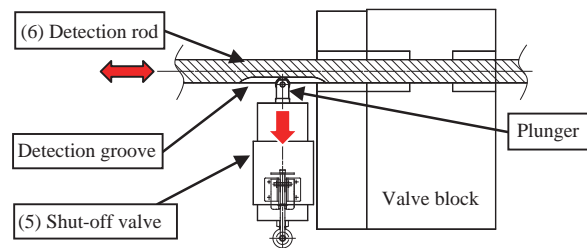

Fig. 3 (5) Shut-off valve and vi. detection rod
Fig. 3 shows how the (5) shut-off valve and (6) detection rod are installed. The detection rod comes with a groove (detection groove) in the middle. The tip of the plunger rests within this detection groove in a normal state, and the plunger is not pressed. So this is in the "low damping mode". The (6) detection rod is installed on the damper's piston rod and moves in the same movement as the piston rod. When the piston rod moves more than the length of the detection groove (in major earthquakes), the part of the (6) detection rod without the groove moves to where the